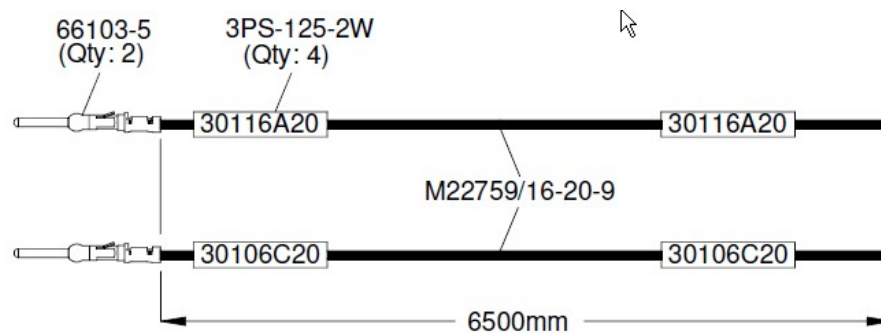

Figure 44: Preparation of Low Thermal Limit Switch Wires
13.2.1.2 Prepare the Low Thermal Limit Switch wires according to Figure 44.